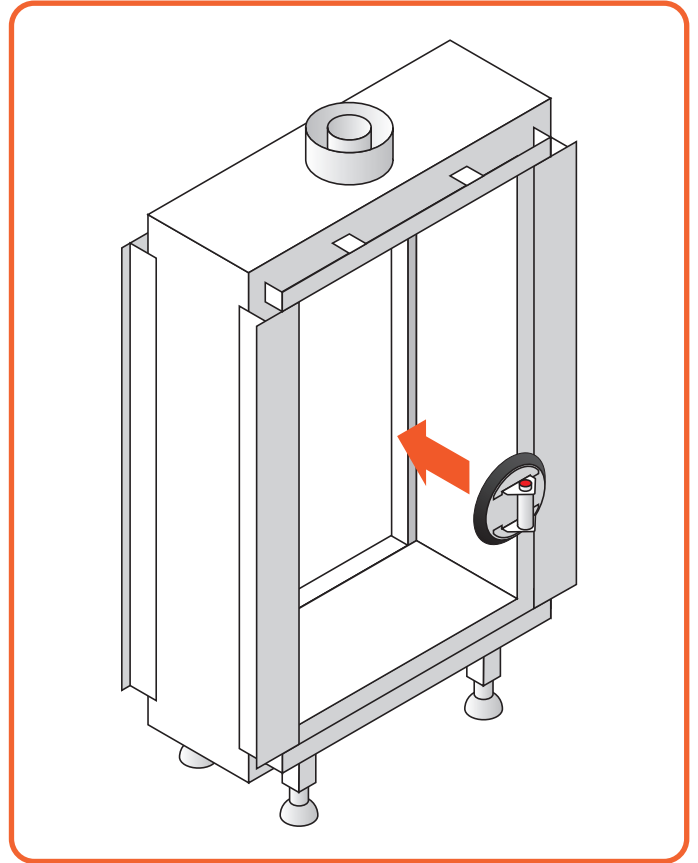

Figure 11.12 - Put on suction cups
- Put the section cup on the glass and make sure it is properly vacuumed, so it will not come off. (See **Figure 11.12**)